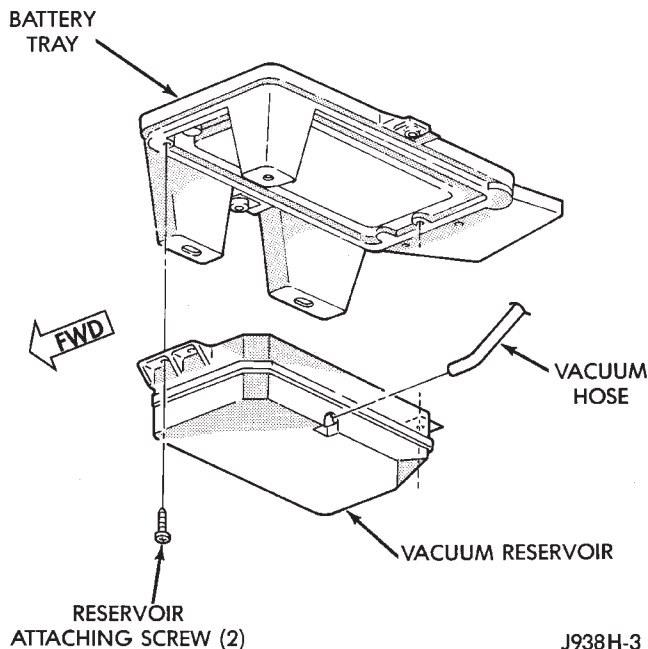

Fig. 8 Vacuum Reservoir
- (1) Disconnect both battery cables, negative cable first.
- (2) Remove battery holddowns.
- (3) Remove battery from battery tray.
- (4) Remove 5 bolts securing battery tray.
- (5) Pull up battery tray and remove vacuum line from reservoir (Fig. 8).
- (6) Remove 2 screws holding reservoir to battery tray.
- (7) Reverse removal procedures to install. Tighten hardware as follows: